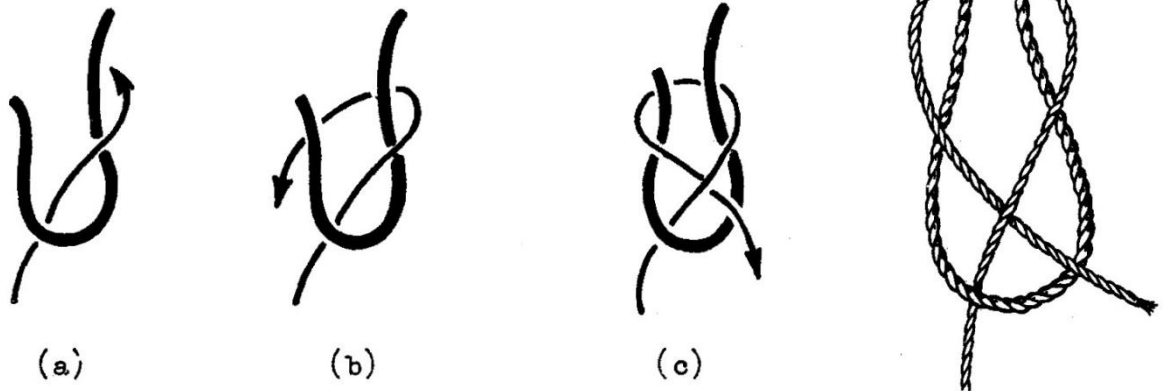

FIG. 5. SINGLE SHEET BEND.
3.5 Single Sheet Bend. A single sheet bend (see Fig. 5) may be used in place of a reef knot where greater safety from slipping is required or the ropes differ in size, but it is not easily undone. It is often used for fastening a rope to an eye splice or the becket or eye of a block. See Figs. 5a, b and c for the method of making this knot.